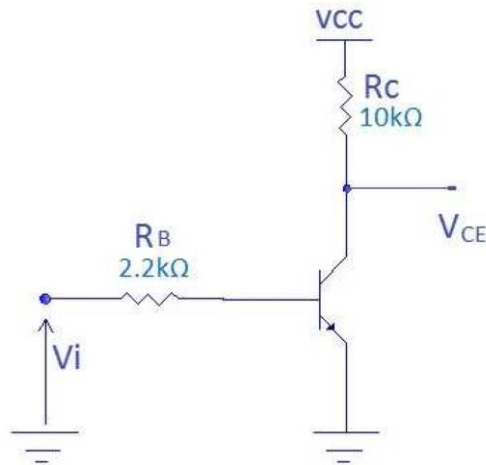
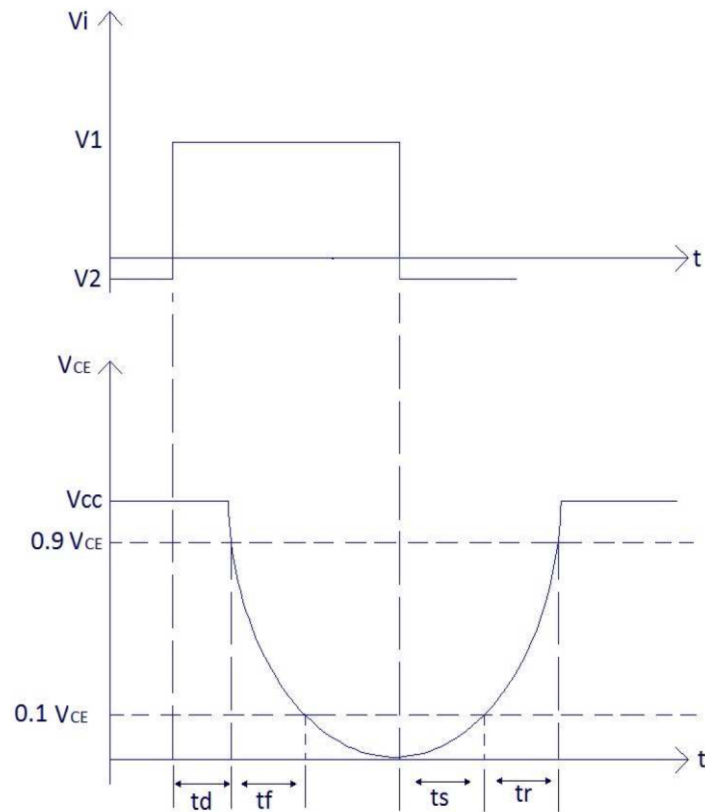

Figure 6.2
Figure 6.3
- a) The ON condition: In Figure 6.2 the transistor will operate in ON state when a positive V_i is applied to the circuit to produce sufficient base current to saturate the transistor, the I_B and I_C can be evaluated as:
To see the behavior of transistor as it makes a transition from ON state to OFF state or vice versa consider the switch of Figure 6.2 driven by a pulse this wave form makes transition between voltage level V_{off} & V_{on} at V_{off} the transistor is at cutoff & at V_{on} the transistor is in saturation. The response of the collector voltage to the input is shown in Figure 6.3. When the input jumps to V_1 in order to turn the transistor on the charged junction capacitances (C_{BE} , C_{BC}) cause a delay. The output takes time to go from V_{CC} volt to Zero volts and the time that it takes the output to drop by 10% is called delay time (t_d) and the time it takes the output to drop an additional 80 % is called the fall time (t_f) the sum $t_d + t_f$ is called the turn ON time (T_{ON}).
1. Connect the circuit shown in Figure 6.2 with $R_C = 2.2K\Omega$, $R_B = 10K\Omega$, and 2SC945 transistor.